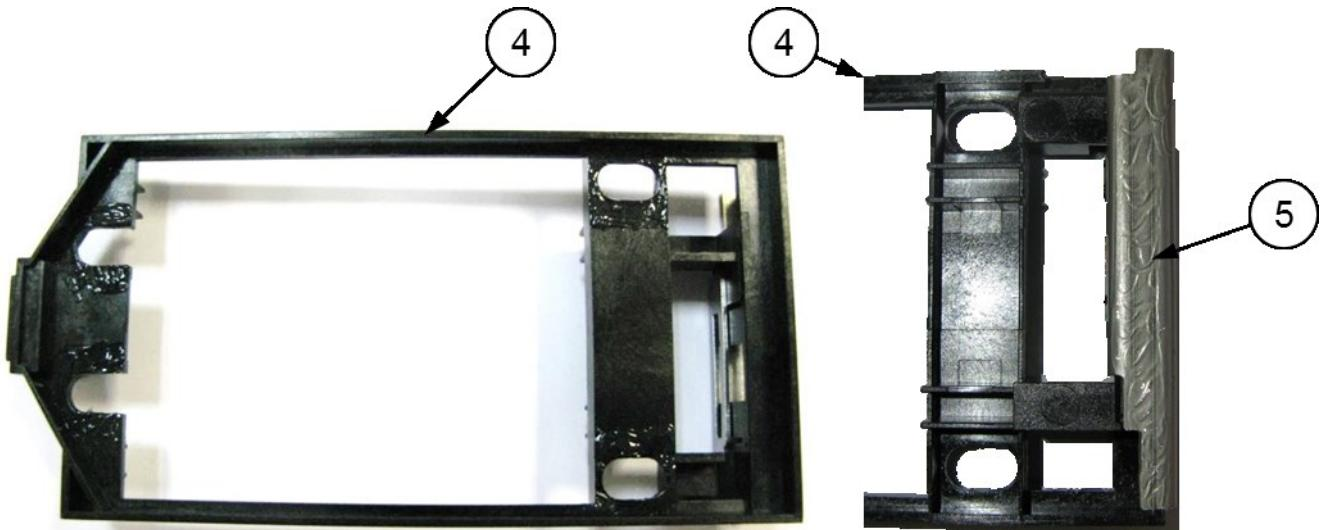

Fig. 81 Technical vaseline TB-9 application on the Latch body the Metal latch
4. Apply thin layer of the technical vaseline TB-9 on the **Latch body (4)** surface that slide on the **Metal washers 3,2x10x0,5 (2)**. Apply thin layer of the technical vaseline TB-9 on the **Metal latch (5)** surface that slide on the **Back case (7)**. Quantity of the vaseline is shown in the **Fig. 81**.